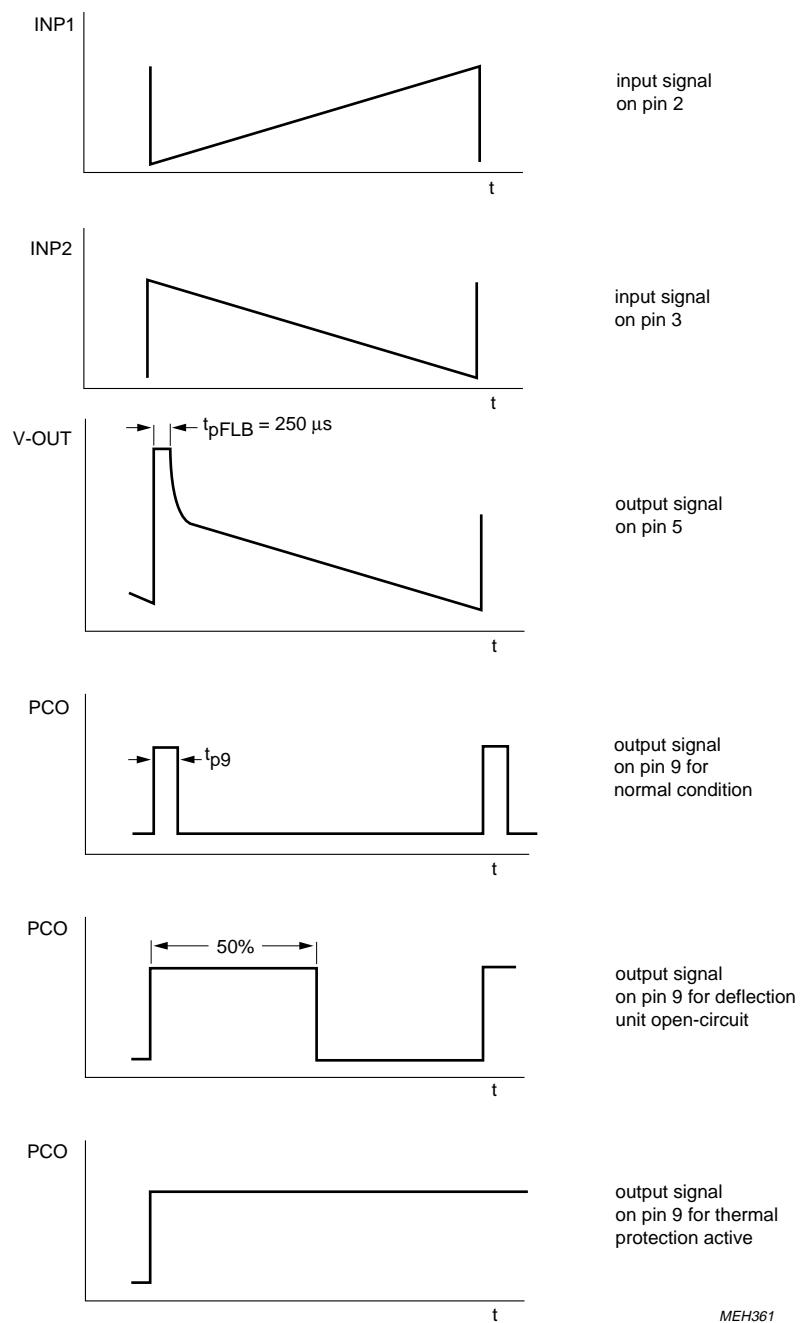

Fig.3 Vertical timing.
Pin 9 will go HIGH if the junction temperature goes to high (see Fig.3). A pulse signal with 50% duty cycle is output on pin 9, if the deflection coil is open-circuit. A flyback pulse signal is output at normal conditions.
**Vertical output; see Fig.3**
**Pulse circuit output; see Fig.3**